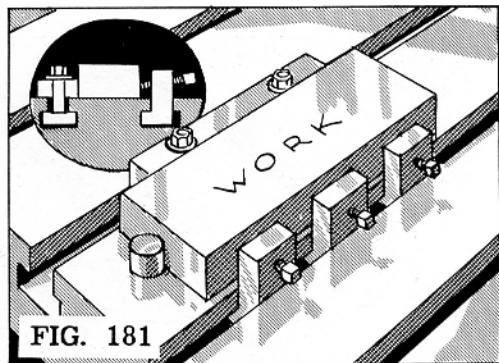

FIG. 181
- b. Select three stops with screws set at an angle. The slight angular set of the screws, which is between 5° and 10° , will force the work against the aligning strip and the work to the table (Fig. 181).